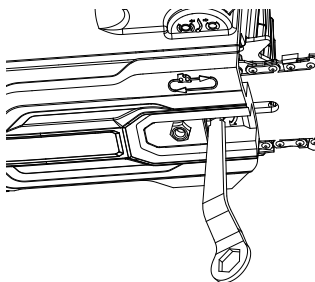

Fig. 4
tensioning gear when the guide bar and saw chain can not be mount over the drive sprocket (Fig.4).
1. It is no need to remove the side cover for adjusting the chain tensioning gear (Fig.4). Just loosen the side cover nut slightly by a wrench to unlock the guide bar and saw chain which completely locked during operation.